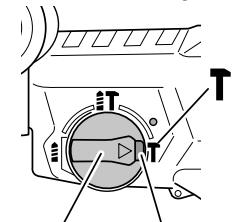

Fig. 19 Change lever Push button
This rotary hammer can be set to hammering only mode by pressing the push button and turning the change lever to the **T** mark (Fig. 19).
(3) Turn the change lever to **T** mark (Fig. 19).